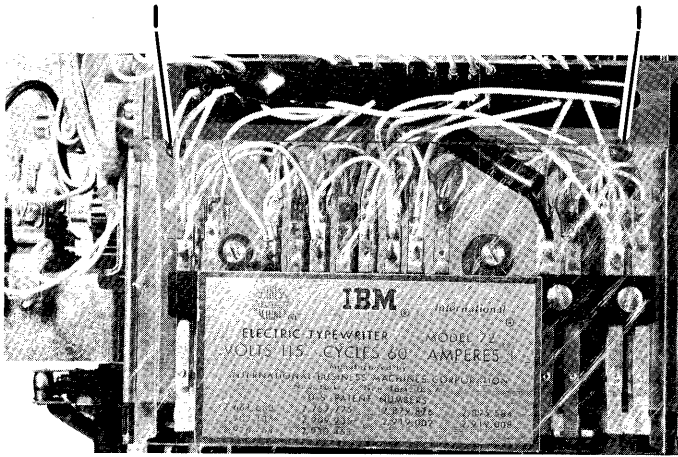

Figure 21. Rotate Selection Differential Removal
3. Remove the two screws (#1, Figure 21) that hold the plate to the frame. Remove the contact assembly, holding it to the front with a rubber band.